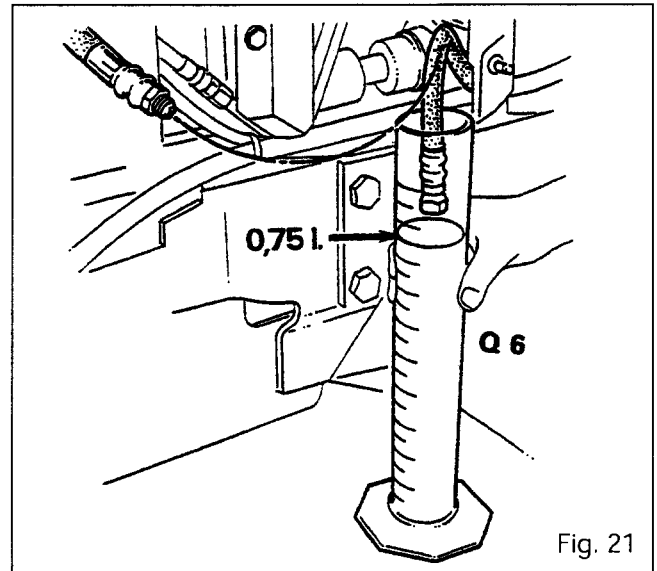

Fig. 21
- Using a probe, measure the outlet flowrate **Q6** and the inlet flowrate **Q7** after the restrictor (Figures 21 and 22).